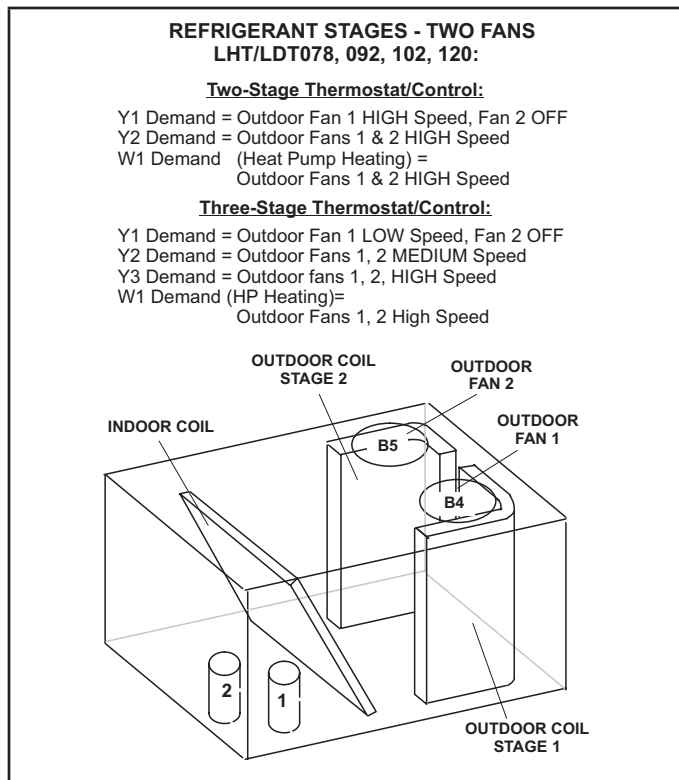
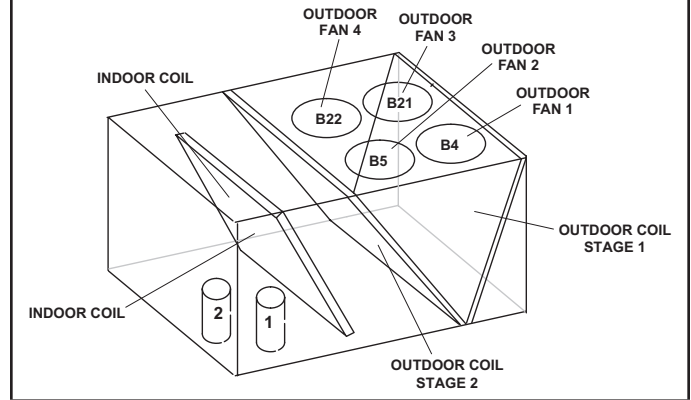

FIGURE 26
FIGURE 27
- 3 - Units have two refrigerant circuits. See FIGURE 26 or FIGURE 27.